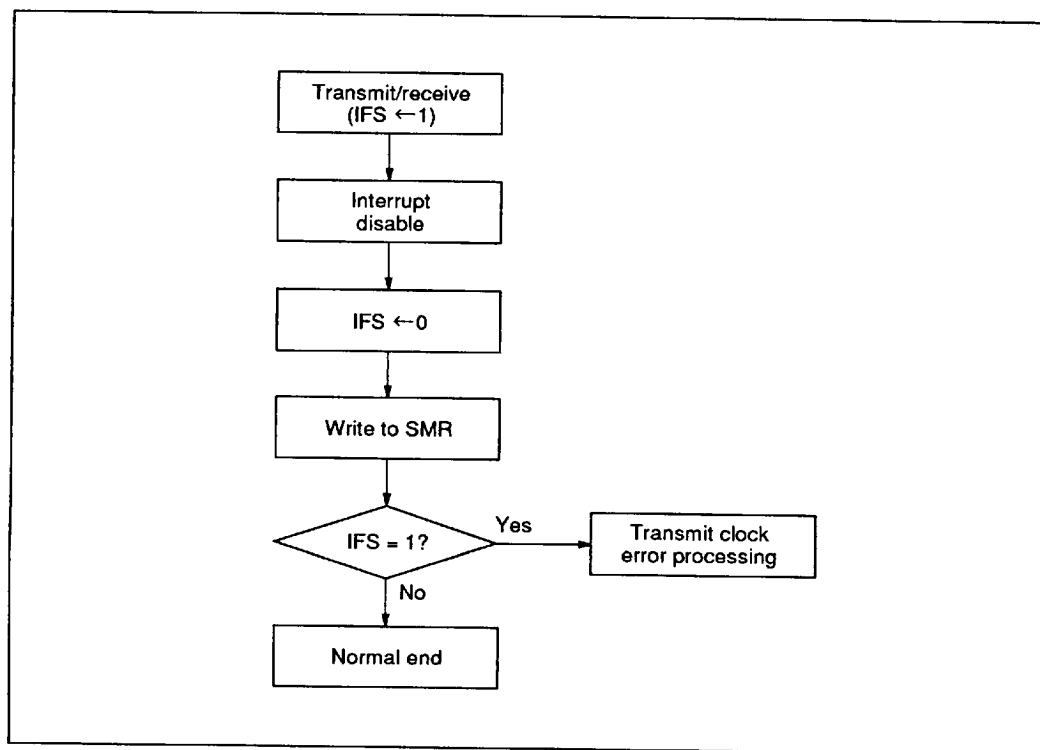

Figure 20 Transmit Clock Error Detection
**Transmit Clock Error Detection:** The serial interface functions abnormally when the transmit clock is disturbed by external noise. In this case, transmit clock errors can be detected by the procedure shown in figure 20.